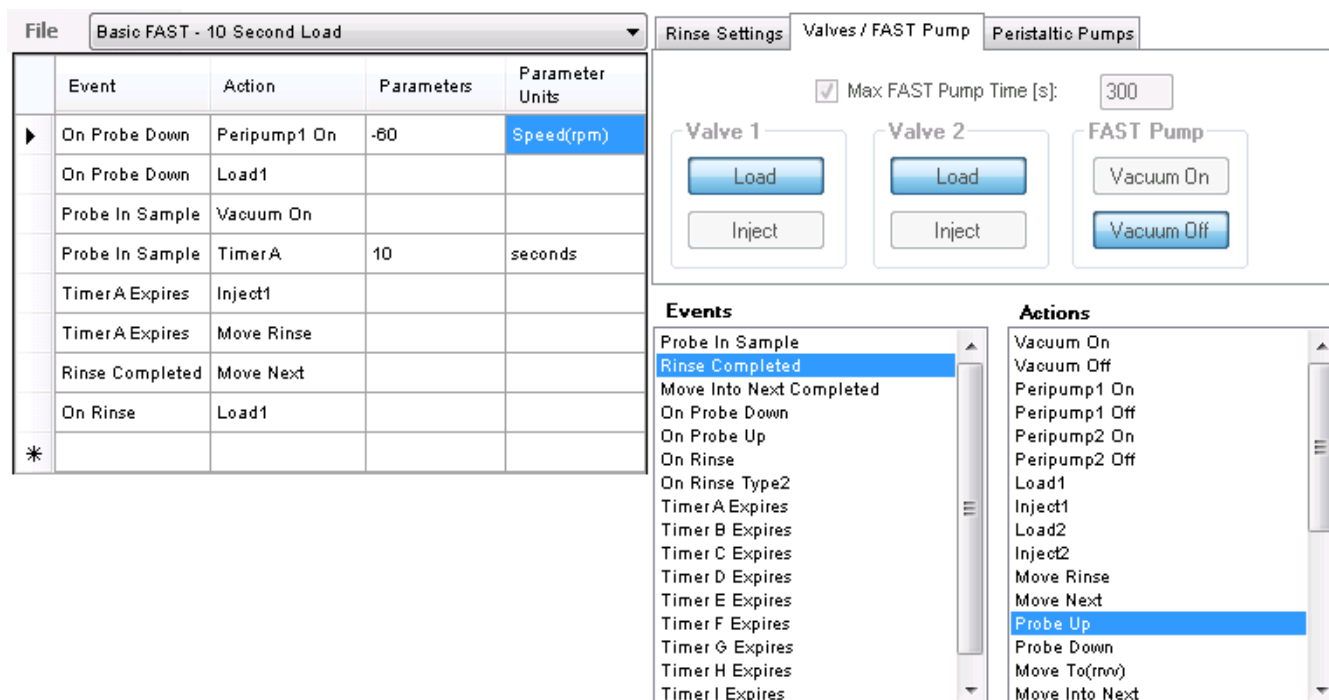

Figure 6-83. ESI FAST settings
5. Click  to open the ESI FAST view, see Figure 6-83.